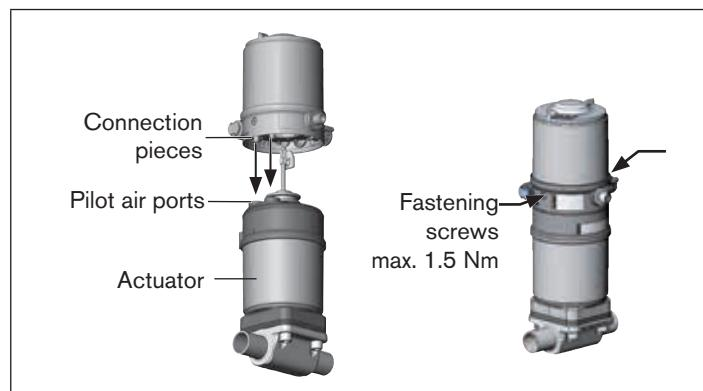

Fig. 8: Installation of control head, 21xx series
2. the connection pieces of the control head can be inserted into the pilot air ports of the actuator (see also "Fig. 8").